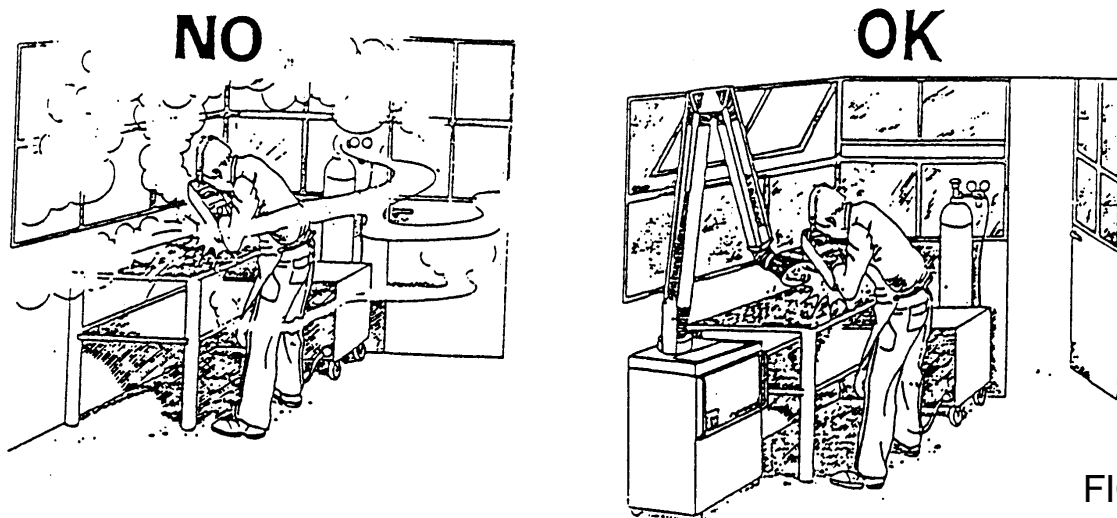

FIG.6
- Adequate local exhaust ventilation must be used in the area. It should be provided through a mobile hood or through a built-in system on the workbench that provides exhaust ventilation from the sides, the front and below, but not from above the bench so as to avoid raising dust and fumes. Local exhaust ventilation must be provided together with adequate general ventilation and air circulation, particularly when work is done in a confined space. (Fig.6). Any symptom of stain or soreness to the eyes, the nose or the throat may be caused by inadequate ventilation; work must be stopped immediately and all necessary steps must be taken to provide adequate ventilation.